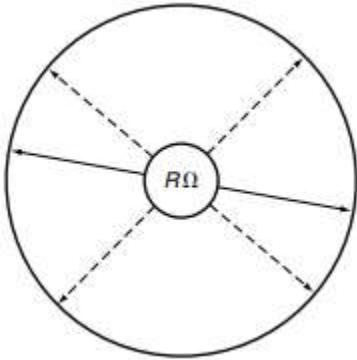

Figure 1.6: Resistance across diameter of circle of conductor.
2. Complete the ring for both conductors, and bridge together line and neutral at the mid-point socket (this corresponds to point YB in Figure 1.6).
Now measure between the completed line and neutral ends in the fuse board (points XZ and AC in Figure 1.6).